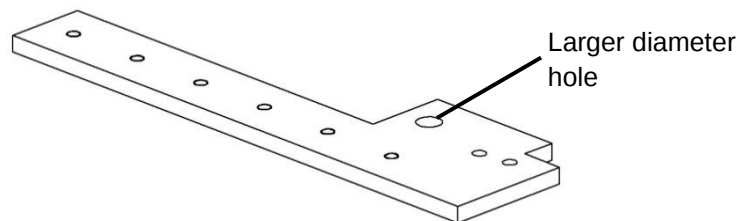

Fig. 20 Main counter balance plate
8. Remove the eyebolt from the lifting boss located near to the feed gearbox and place in a secure position for later use. Fit the main counterbalance plate by locating the larger diameter hole over the lifting boss (see Fig. 20). Secure into position with the balance weight washer and eyebolt previously removed. Locate M16 cap screw through the counterbalance weight and tighten to secure onto drive assembly. Ensure the plate is securely located on the drive assembly before proceeding.